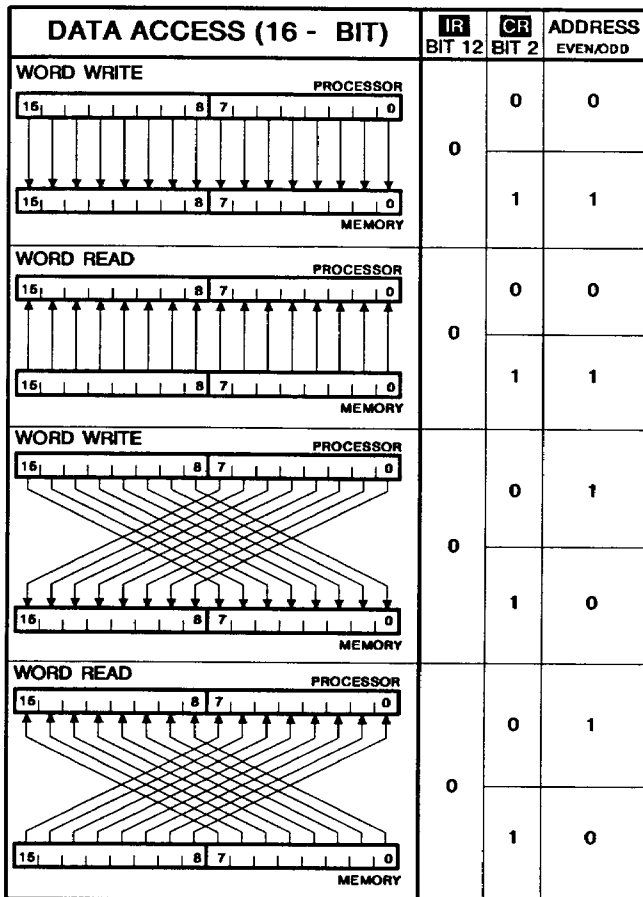

FIGURE 17. MEMORY ACCESS (WORD)
Bit 12 of the Memory Access Opcode (see Table 17), is used to determine whether byte or word operations are to be performed (where bit 12 = 0 signifies a word operation, and bit 12 = 1 signifies a byte operation). In addition, the determination of whether a byte swap is to occur depends on which mode (the "Motorola-Like" or the "Intel-Like") is in effect, and on whether an even or odd address is being accessed (see Figures 17 and 18).
**CR** Bit 2 = 0: The "Motorola-Like" mode of word access (also known as the "Big Endian" mode) to an even address (**A0** = 0) results in an unaltered transfer of data, as shown in Figure 17. Word access to an odd address (**A0** = 1) while in this mode will effectively cause the Byte Order Bit to be complemented and will result in the bytes being swapped.
**CR** Bit 2 = 1: The "Intel-Like" mode of word access (also known as the "Little Endian" mode) to an even address (**A0** = 0) results in a data transfer in which the bytes are swapped. Word access to an odd address (**A0** = 1) while in this mode will effectively cause the Byte Order Bit to be complemented with the net result that no byte swap takes place when the data word is transferred. See Figure 17.